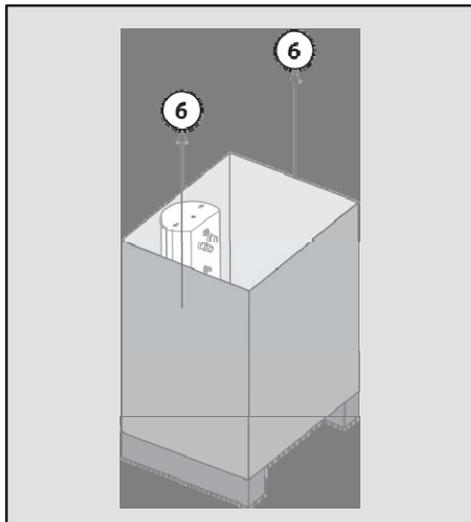

Fig 1.9: Remove the inner carton.
6. Remove the inner carton (see Fig. 1.9).